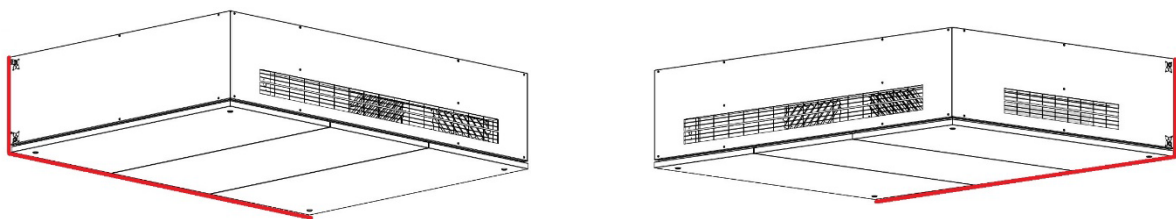

Figure 31: Sealing around the unit
2. Apply sealant to the inside around the base and sides of the unit, i.e. between the unit and the wall, see Figure 31 below.